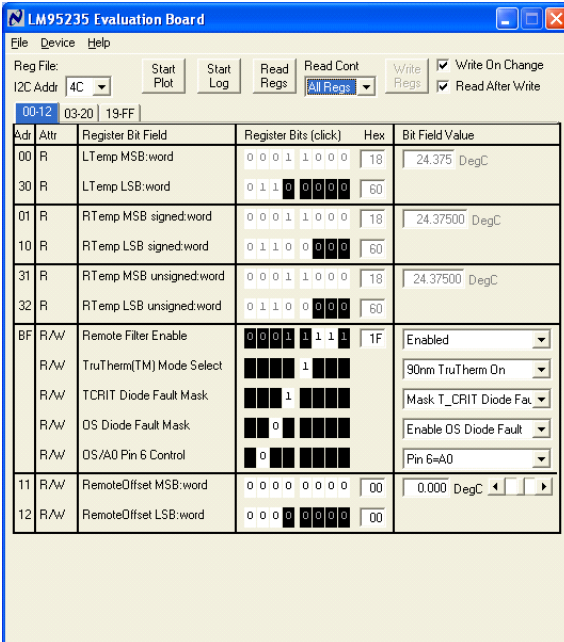

Figure 7
12. The next screen will look like Figure 7.